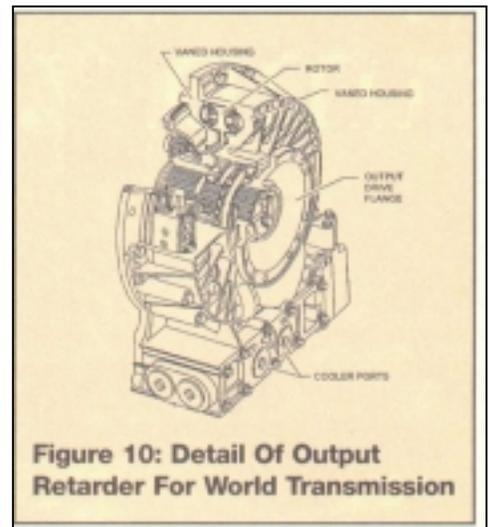

Figure 10: Detail Of Output Retarder For World Transmission
The Allison World Transmission (WT) series can be equipped only with the output retarder. It also has an accumulator to maintain a reserve amount of transmission fluid for quickly filling the retarder housing. (See Figures 10 and 11.) The output retarder functions similarly to the input retarder. Its rotor is splined to the output shaft and always rotates at drive-shaft speed. Retarder capacities are shown below: